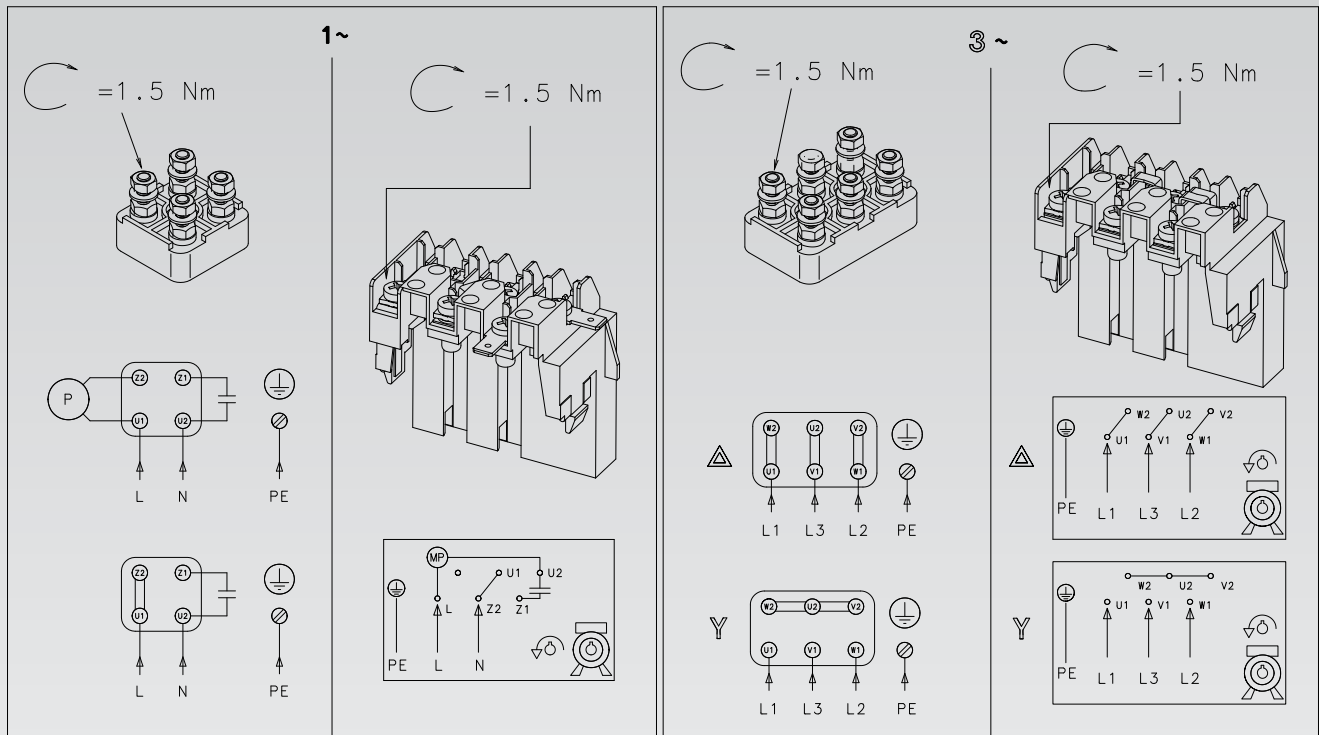

Figure 6
2. Connect and secure the power cables according to the applicable wiring diagram. For wiring diagrams see Figure 6 on page 20. The diagrams are also available on the back of the terminal box cover.
- b) On the motor terminal board or in the electrical control panel, swap the positions of two of the three power supply cables. For wiring diagrams see Figure 6 on page 18.